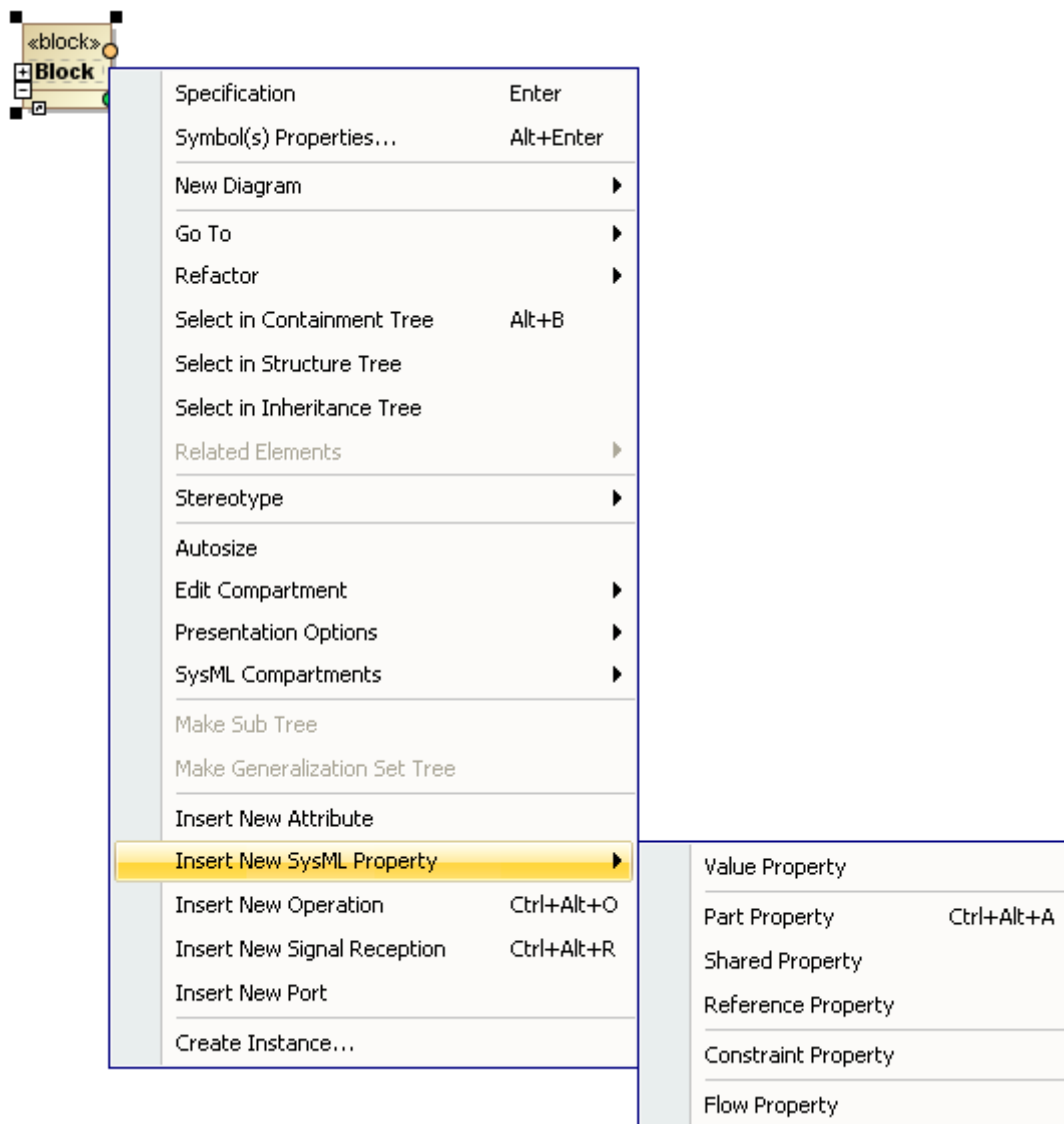

Figure 14 -- Shortcut Menu for Property and Operation Insertion
- (a) Block shortcut menu (Figure 14)
1. Right-click a block and select **Insert New SysML Property** from the shortcut menu (Figure 14).